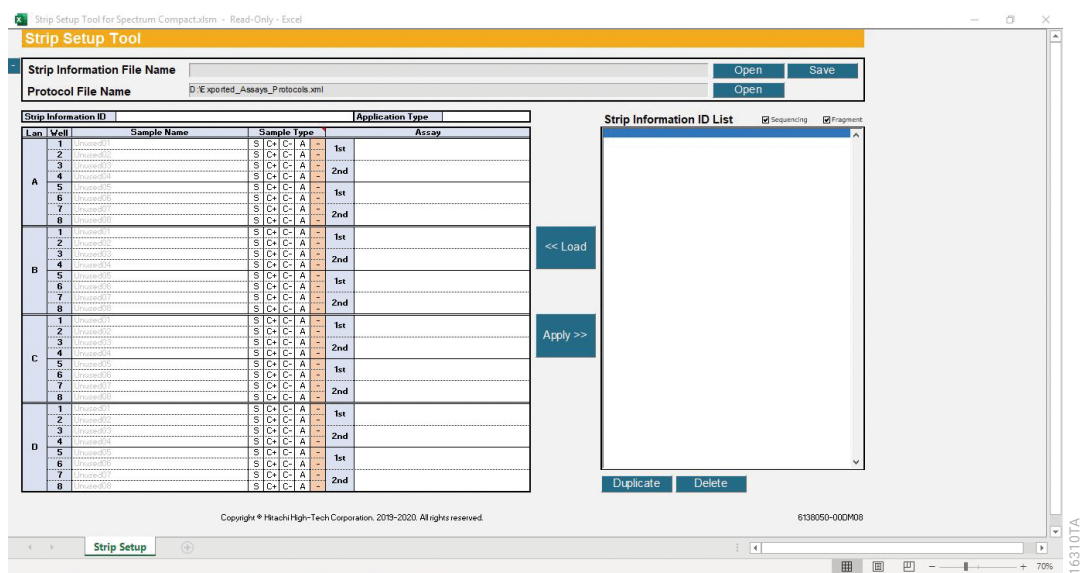

Figure 243. Strip Setup Tool for Spectrum Compact with Protocol File Name selected
2. Select **OK** to close out of this window. The protocol .xml file name is displayed at the top of the Strip Setup Tool for Spectrum Compact (Figure 243).